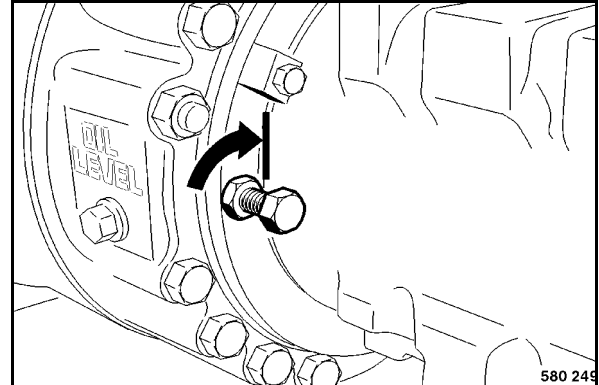

Fig. 112
- Turn the brake releasing screws (Fig. 112) back in again, until they abut against the brake piston.